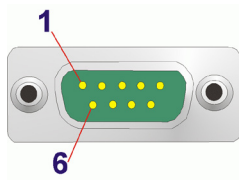

Figure 3-26: RS-232 Serial Port Connector
- CN Pinouts:** See **Figure 3-26** and **Table 3-27**